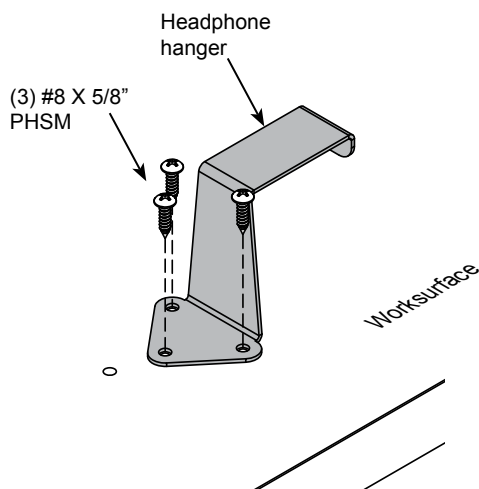

Figure 7
1. The headphone hanger can be attached to the left or right-side of the desk using (3) #8 x 5/8" PHSM screws. **Figure 7.**